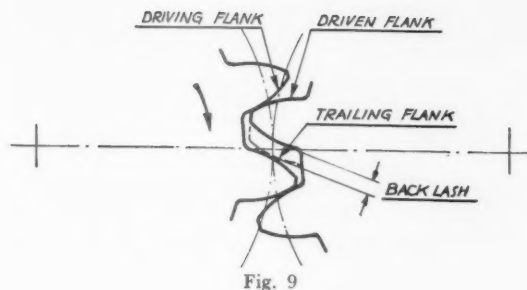

Fig. 9
(1) The driven gear is split into two separate gears. Means are provided (e.g. clamping bolts or loading springs) for imparting relative angular movement to the two gears about their axes to take up any clearance, and for bringing the teeth of each into engagement with the teeth of the driving pinion (Fig. 9). With Universal Hobbing Machines the gear should be split into equal halves, which means that only half of the tooth surface of gear and pinion is loaded for each direction of rotation. However, in such cases where there is no need for swivelling the hob slide about 180° , the gear can be split into two unequal parts with the narrowest portion being used for taking up backlash only.